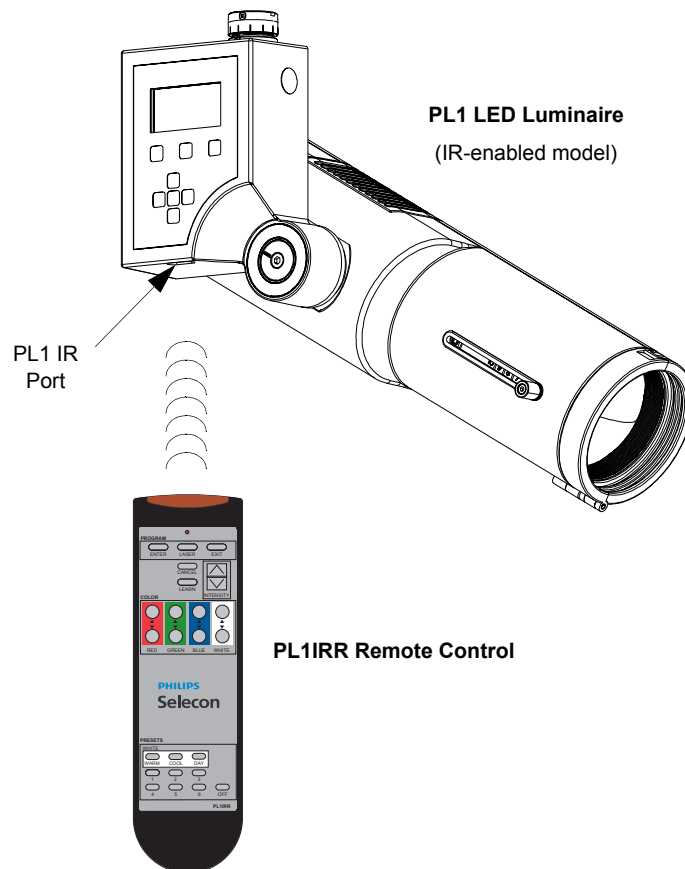

Figure 4: PL1 LED Luminaire Programming / Control
Step 1. Point PL1IRR programming remote Laser / IR window directly at luminaire IR programming window (as shown in **Figure 4**) and hit "Enter" button. Note, each luminaire to be programmed/adjusted needs to be selected and programmed/adjusted individually.